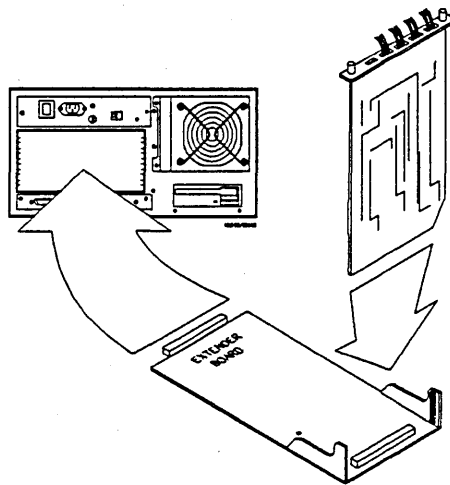

Figure 6-27. Installation Summary
8. Plug the card to be serviced into the extender board. See figure 6-27.